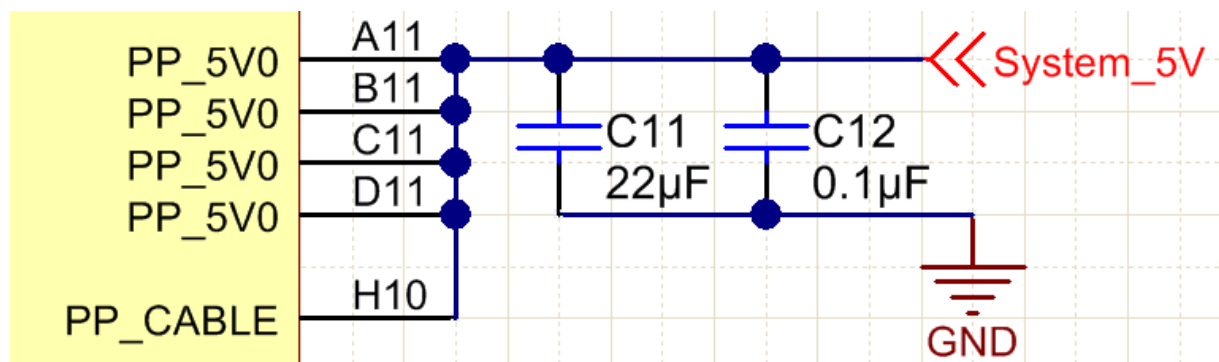

Figure 9. PP_5V0 Supply
- Verify that PP_5V0 is receiving 5 V from the system (Figure 9)
Changed paragraph before figure 9 on page 7.